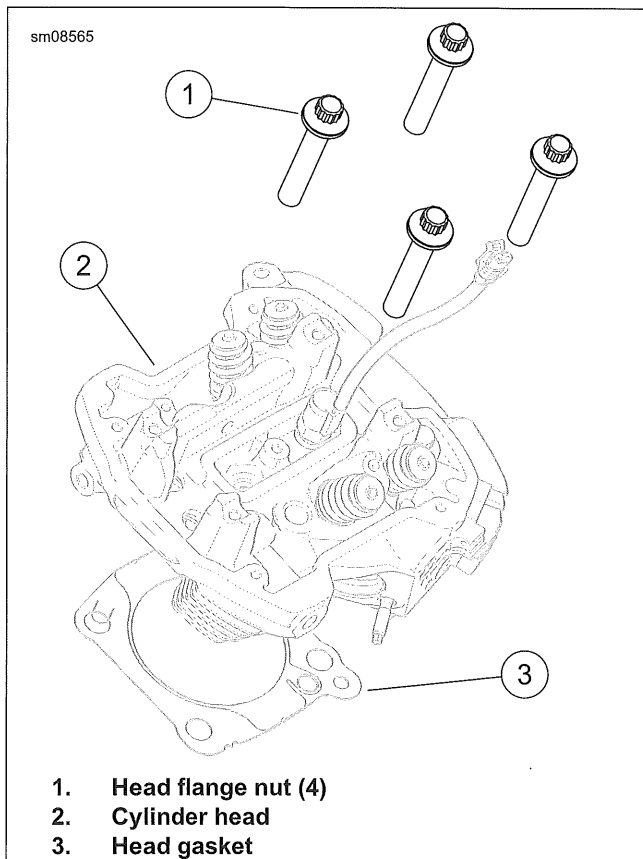

Figure 4-29. Cylinder Head
3. See Figure 4-29. Install cylinder head.